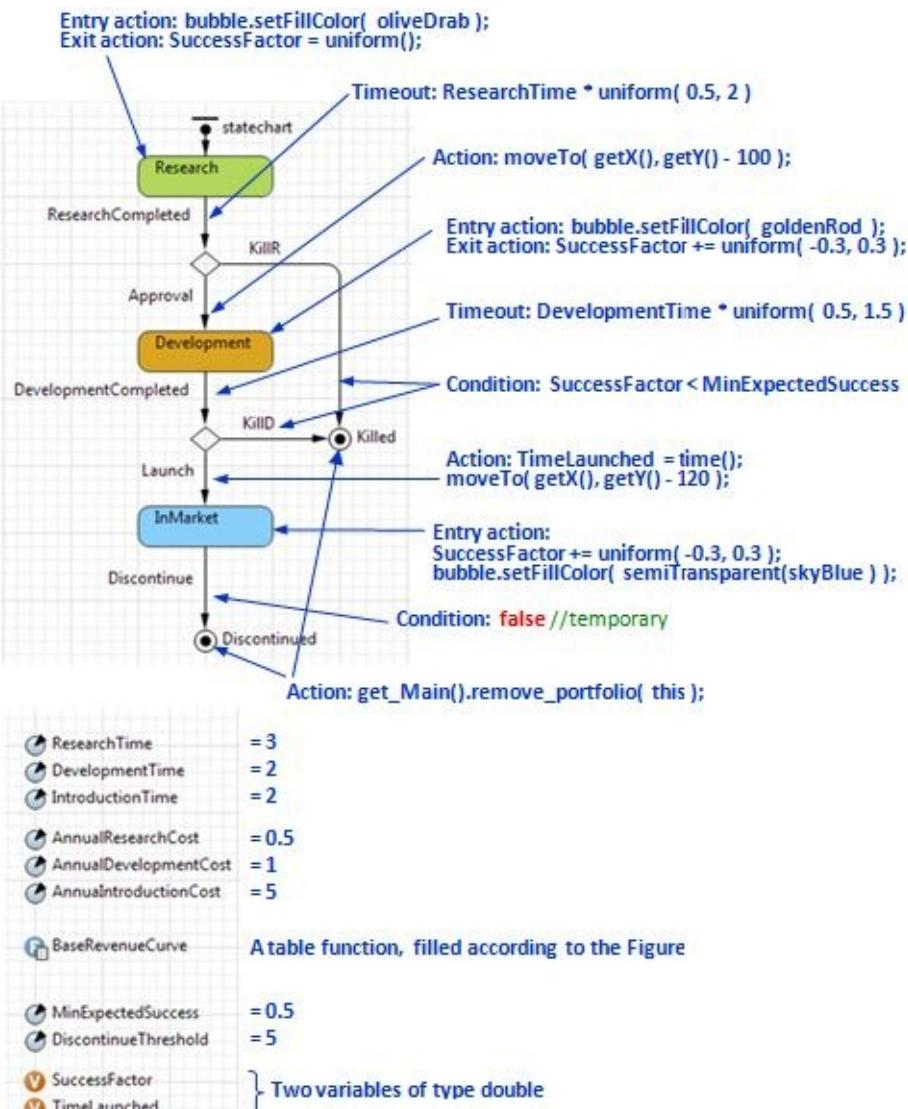

Figure 6.27 Statechart, variables, and parameters of the agent Product
8. In the editor of *Product*, add three functions with return type *double* as shown in Figure 6.27.
9. Change the condition triggering the transition *Discontinue* as shown in Figure 6.27. The condition reflects the fact that the product can be discontinued only after the introduction phase.
10. Select the *bubble* (the animation of the product), and open the **Dynamic** page of its properties. Provide the expressions for the bubble radius as shown in Figure 6.27.